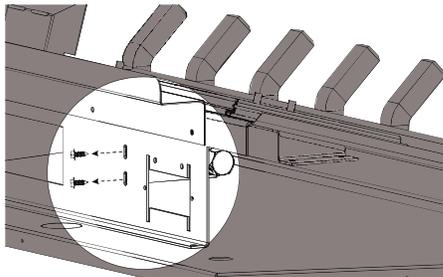

FIG. 2: Side/Back View of Valve Train Assembly
3. Remove the two screws securing the orifice bracket in place (**Fig. 2**).